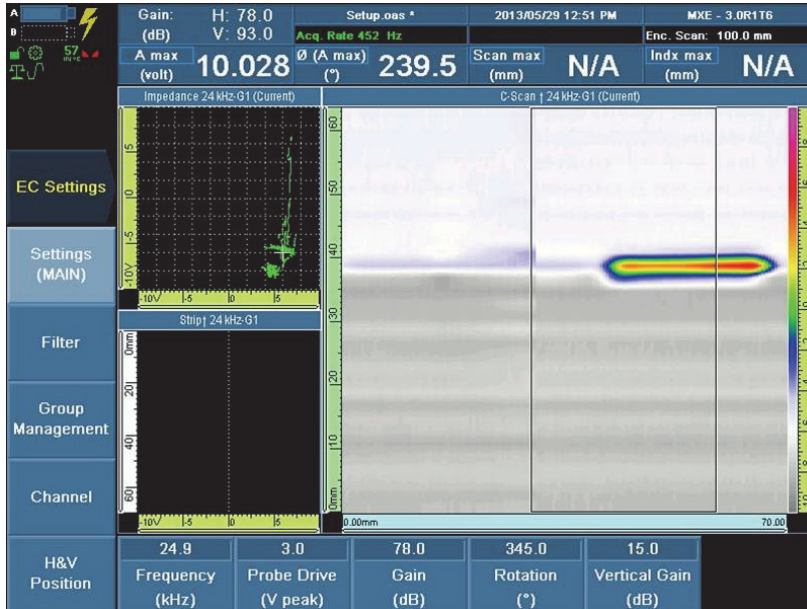

Figure 13-24 Crack and doubler signals displayed on the C-scan
- Crack and doubler signals are displayed in the C-scan view (see Figure 13-24 on page 260).